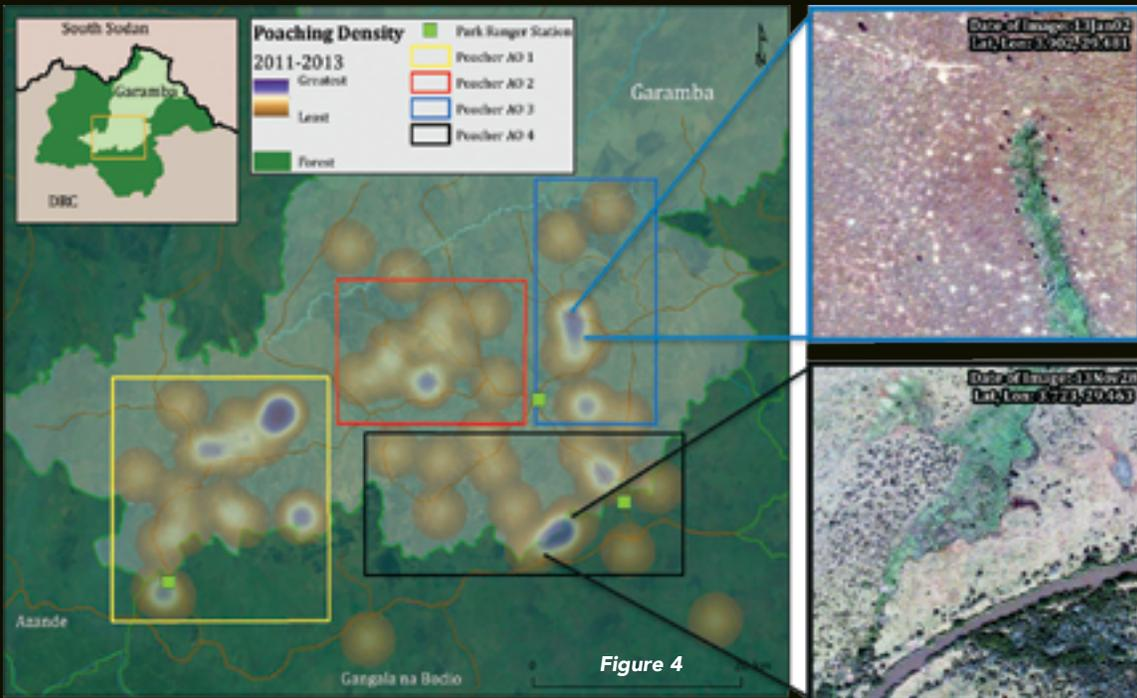

Figure 4
- **AO 4**—As is the case with AO 3, AO 4 (411 km²) had significantly less activity in 2013 than it had in 2012. The two events that took place in 2013 were shifted further to the west than in previous years. (Figure 4, next page.)